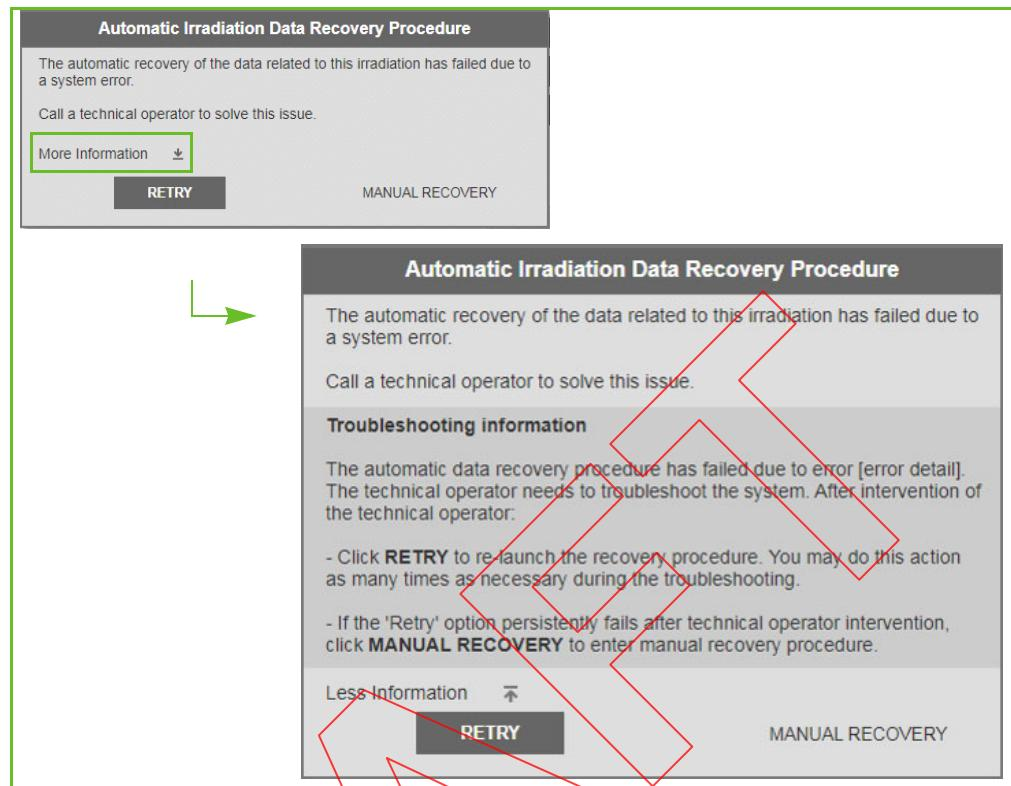

Figure 39-6. Recovery after termination by PTS - Automatic data recovery information (online)
The automatic process can fail for various reasons, including software crashes, communication faults, hardware problems, etc. In such case, the User shall ask the IBA Operator to investigate the cause of the automatic process failure and to attempt to troubleshoot it (Figure 39-6).
1. In case the Automatic process fails, a new popup appears giving you the possibility to **Retry** or to attempt the **Manual Recovery** (Figure 39-7a). You can click on **More Information** to know more (Figure 39-6).